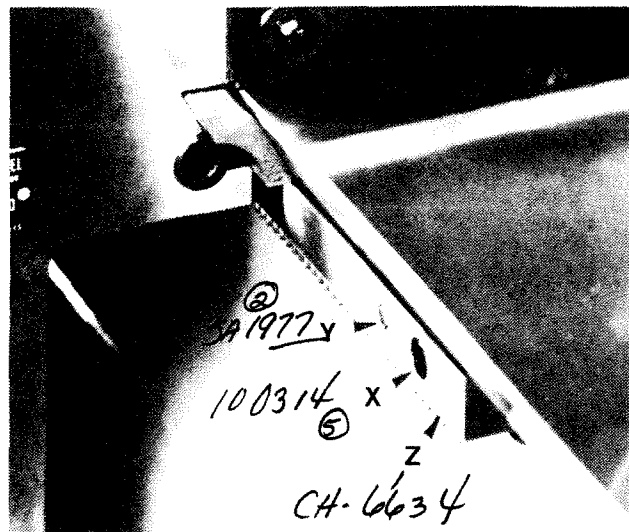

Figure 1.40 - Carriage Gear Rack
2. Move the carriage to both extremes of travel and remove five screws "X", Figure 1.40 .
2. Move the carriage to both extremes of travel and install five screws "X", Figure 1.40 .
Use a pressure oil can to lubricate carriage gear rack "Z", Figure 1.40, weekly with Mobil® Velocite® No. 6 oil or equivalent.